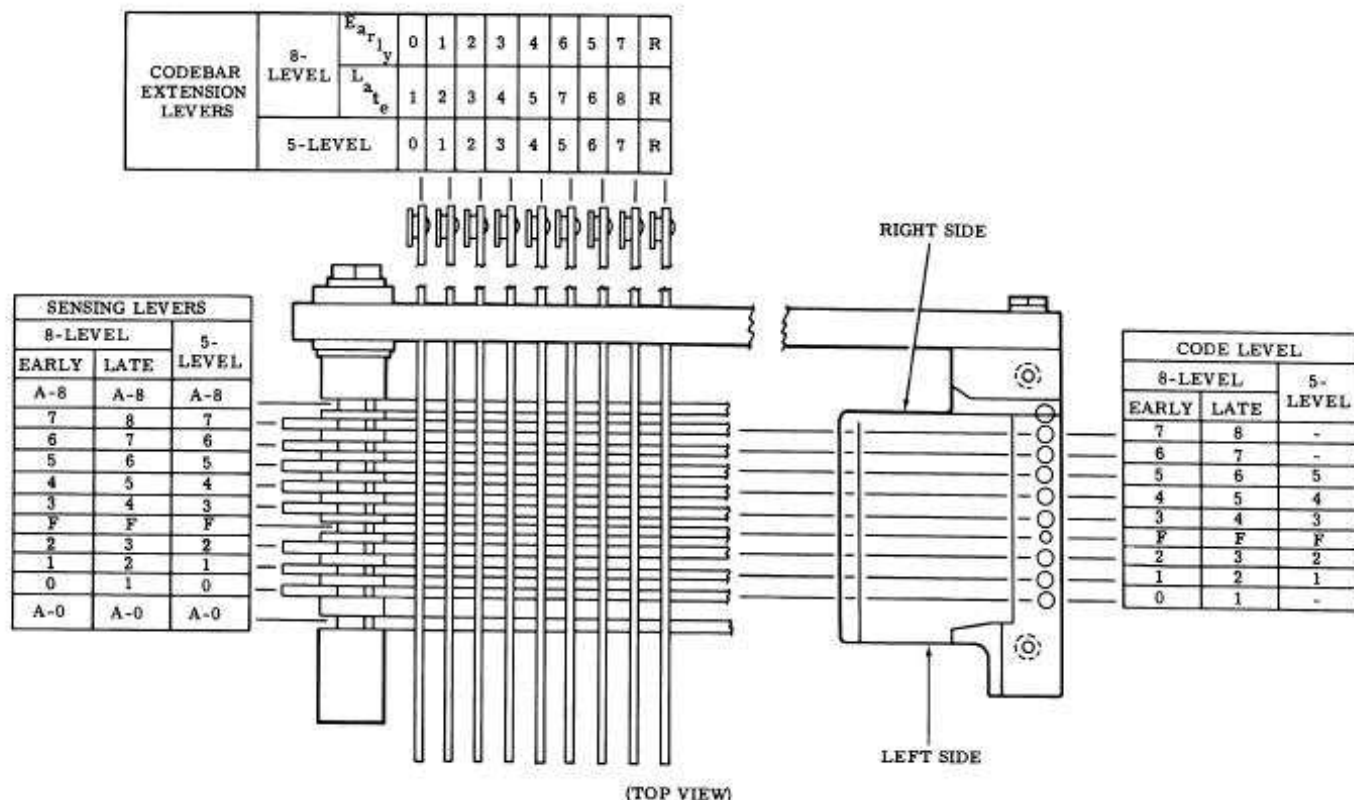

Figure 2 - Tape Punch Code Level Cross Reference Chart
1.17 Coded intelligence is transferred from the typing unit selector to the tape punch via the codebar extension, sensing levers, etc. This coded intelligence is ultimately evidenced by the code combinations which are punched into paper tape by the punch pins which are located in the punch block assembly of the tape punch. Each punch pin, except the feed (F) punch pin, represents a code level. The relationship between code levels, sensing levers, and codebar extension is illustrated in Figure 2.
Note 1: For those 5-level tape punches equipped with an auxiliary drive bail TP182186, repeat the above procedure with a FIGS D code combination set up in the selector. Omit checking the lever in the no. 3 code level position (Figure 2), since it is not operated.
Min 0.005 inch---Max 0.020 inch between the leftmost sensing lever (Figure 2) and its associated pawl.
Note 2: There shall also be some clearance between the rightmost sensing lever (Figure 2) and its associated pawl.